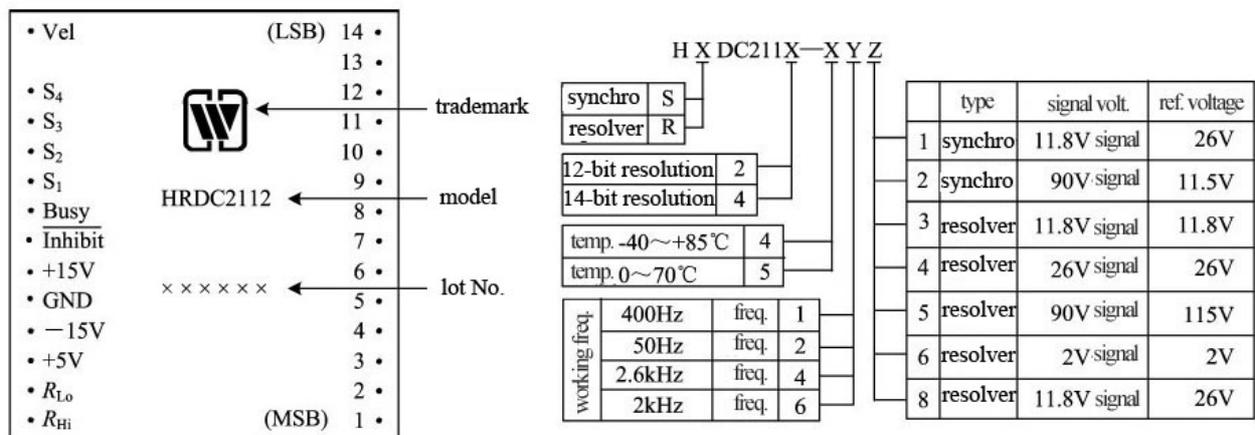

Fig.11 Part numbering key
**11 Part numbering key (Fig. 11)**